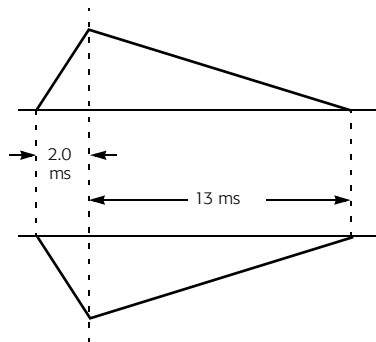

Figure 19. Test Pulse Description
1. Sensitivity measured using the test pulse shown in Figure 19.